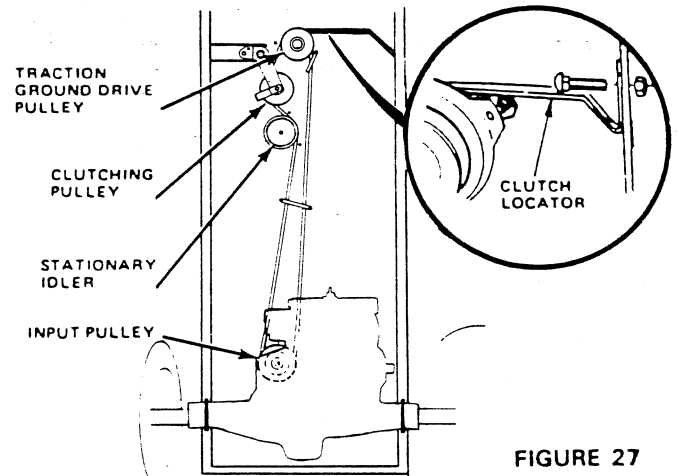

FIGURE 27
- b. Remove Belt from Stationary Idler (Fig. 27).
- d. Release Parking Brake. Pull Belt over top of Clutching Pulley (Fig. 27).
- f. Using a 9/16" wrench, remove Clutch Locator (Fig. 27 - Inset).